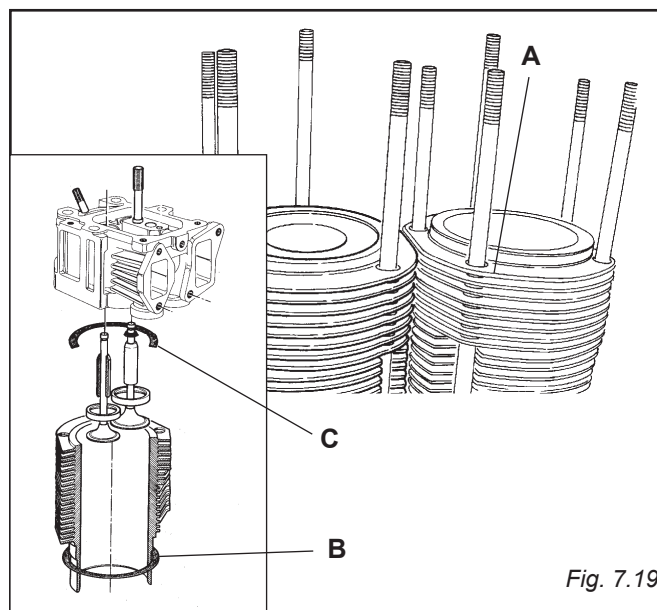

Fig. 7.19
7.16 PISTON CLEARANCE AND CYLINDERS (FIG. 7.19)